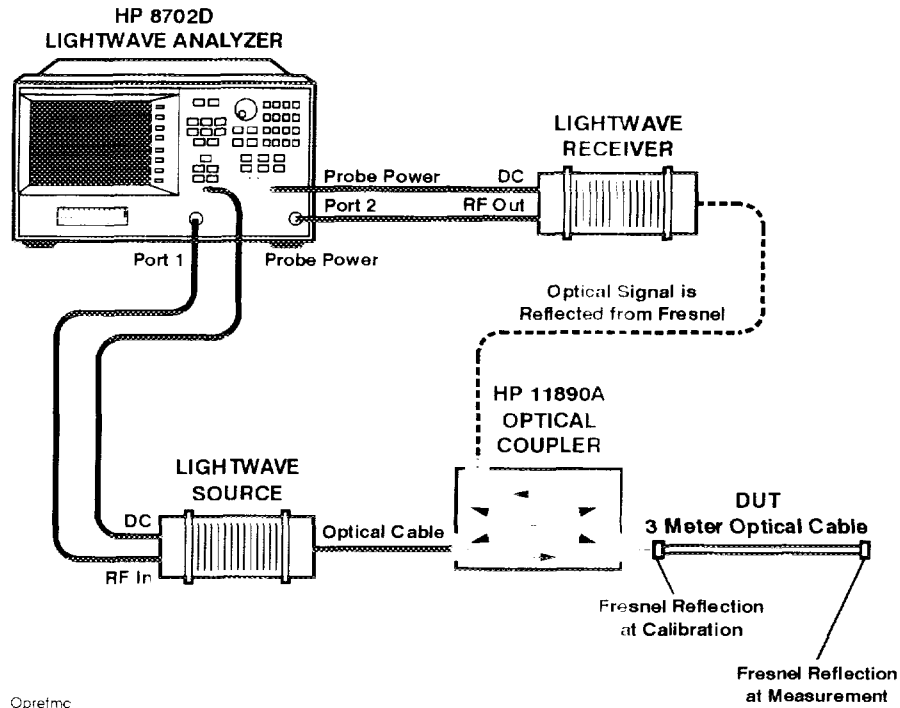

Figure 5-2. Optical Reflection Measurement Configuration
- 1 Connect the system as shown in Figure 5-2, but do *not* connect the device under test. Turn on the power.
The connection diagram shown on the screen has the device under test connected to the coupler. However, do *not* connect the device under test yet, because you are going to calibrate the system with a Fresnel reflection on the coupler test port as shown in Figure 5-2.